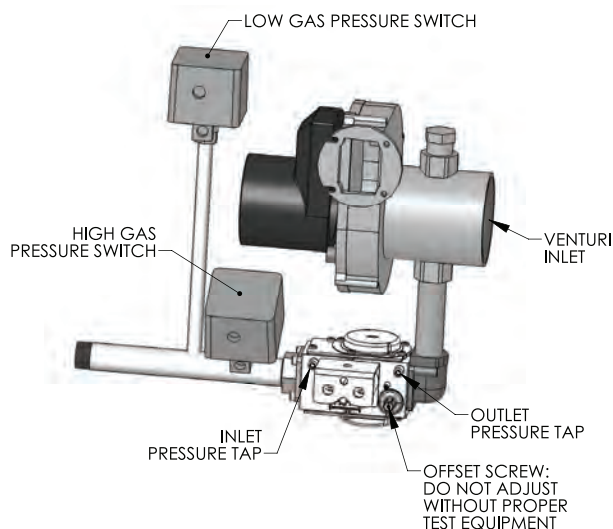

Figure 5.2: Gas Valve/Venturi
2. Table 5.4 shows the maximum and minimum fuel gas supply pressure to be measured at the gas valve inlet pressure tap. See Figure 5.2.
- c. Using a flat screwdriver, turn the screw inside the inlet tap fitting (see Figure 5.2) one turn counter clockwise.
1. Figure 5.2 is an illustration of the gas valve/venturi assembly for the PFC-460 boiler.
- a. Adjustments should not be made to the gas valve without instrumentation to measure carbon dioxide (CO₂) and carbon monoxide (CO) emissions in the vent pipe.